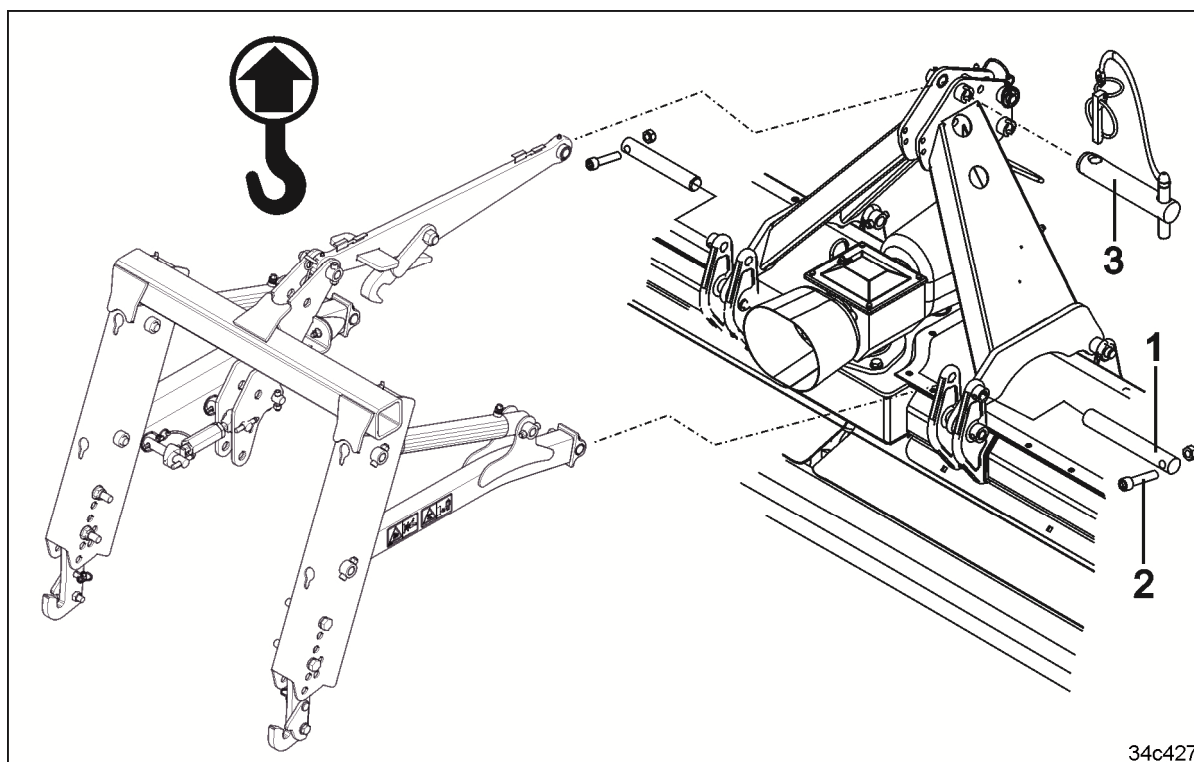

Fig. 80
5. Position the lifting frame at the lower pivot points. Secure the pin (Fig. 80/1) with a screw (Fig. 80/2) and nut.
6. Position the upper link with a pin (Fig. 80/3) and secure with a lynch pin.